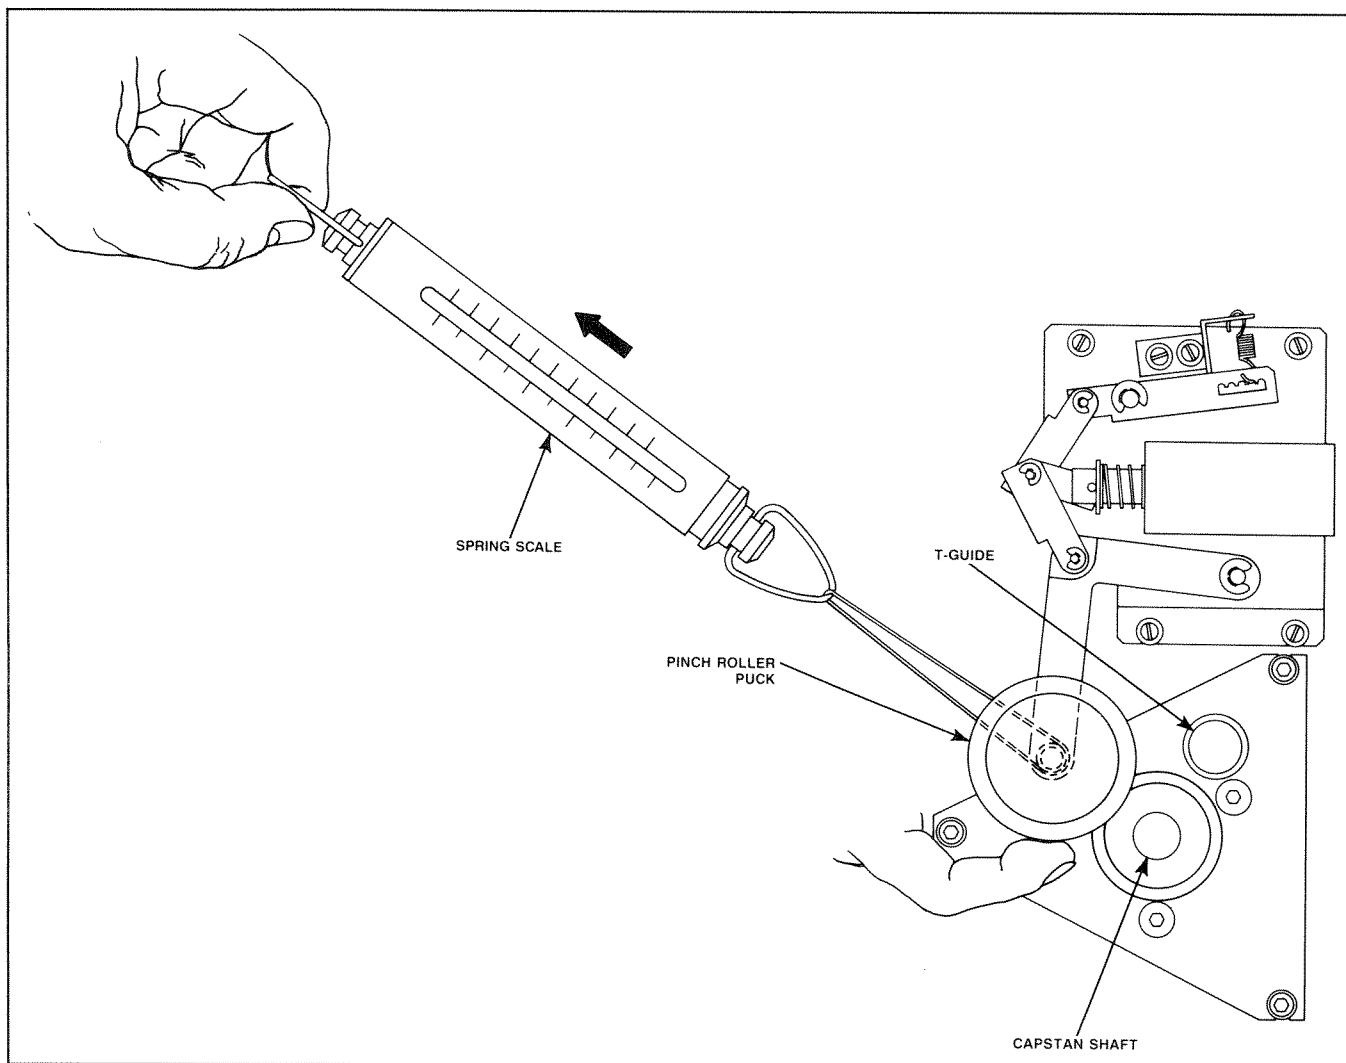

Figure 6-20. Pinch Roller Puck Pressure
STEP 6 Pull the scale toward the supply reel parallel to the tape transport (see Figure 6-20). Apply pressure lightly to the spinning pinch roller with the forefinger while pulling the spring scale continuously.